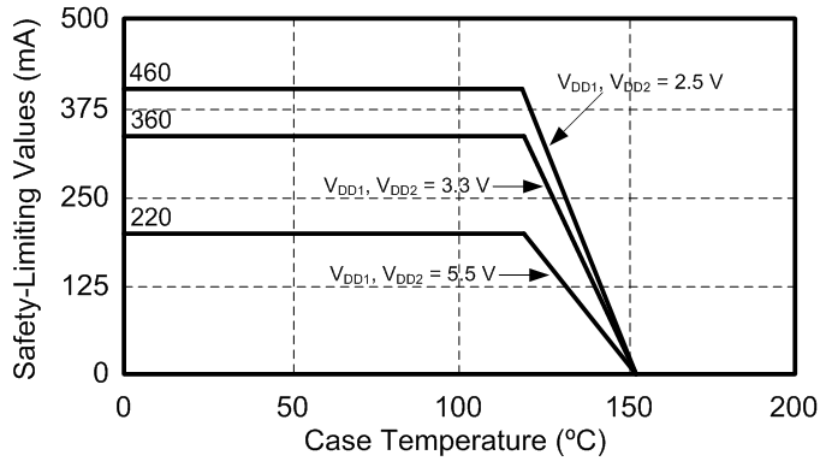
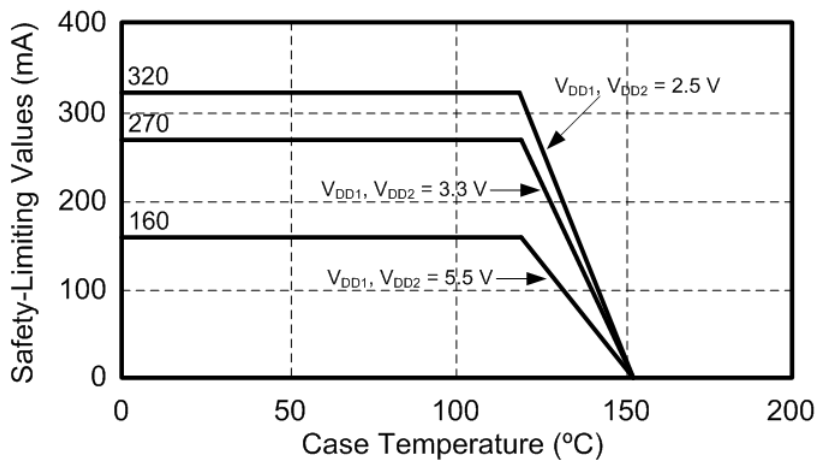

Figure 4.3. (WB SOIC-16) Thermal Derating Curve, Dependence of Safety Limiting Values with Case Temperature per DIN EN 60747-5-5/VDE 0884-10, as Applies
Figure 4.4. (NB SOIC-8) Thermal Derating Curve, Dependence of Safety Limiting Values with Case Temperature per DIN EN 60747-5-5/VDE 0884-10, as Applies
1. Maximum value allowed in the event of a failure; also see the thermal derating curve in [Figure 4.3 \(WB SOIC-16\) Thermal Derating Curve, Dependence of Safety Limiting Values with Case Temperature per DIN EN 60747-5-5/VDE 0884-10, as Applies on page 27](#) and [Figure 4.4 \(NB SOIC-8\) Thermal Derating Curve, Dependence of Safety Limiting Values with Case Temperature per DIN EN 60747-5-5/VDE 0884-10, as Applies on page 27](#).